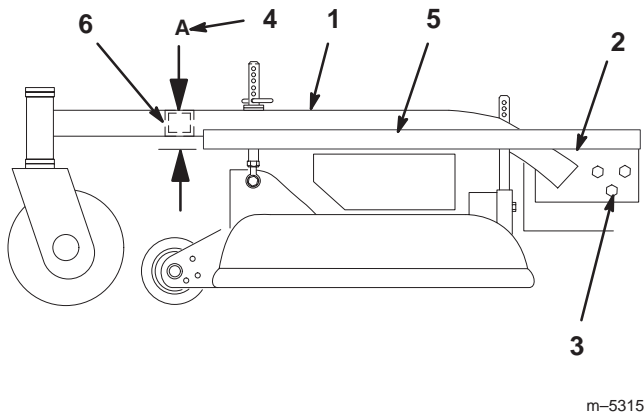

Figure 46
2. Place a long straight edge on top of the engine deck as shown in figure 46.
3. At the carrier frame cross tube, measure location "A" height (Fig. 46). This measurement must be 2–13/16 in., plus or minus a 1/4 in.
5. Loosen the carrier frame mounting bolts on both sides of the machine (Fig. 46).
6. Align the carrier frame and engine deck to match 2–13/16 in., plus or minus a 1/4 in. at location "A" (Fig. 46).